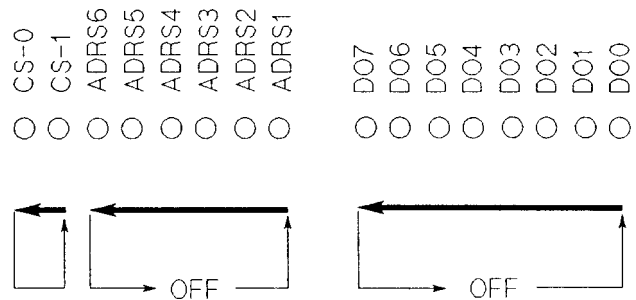

Figure 10-11. Bias Current Interface Function Test
- Confirm CS0 and CS1 LEDs on the simulator turn ON as the 4284A's output signal is displayed on the LCD. (Refer to Figure 10-11).
- Confirm that ADRS1-ADRS6 LEDs on the simulator turn ON in accordance with the hexadecimal number displayed on the LCD. One of the 6 LEDs turns ON in sequence as shown in Figure 10-11.
- Confirm that DO0-DO7 LEDs on the simulator turn ON in accordance with the hexadecimal number displayed on the LCD. One of the 8 LEDs turns ON in sequence as shown in Figure 10-11.